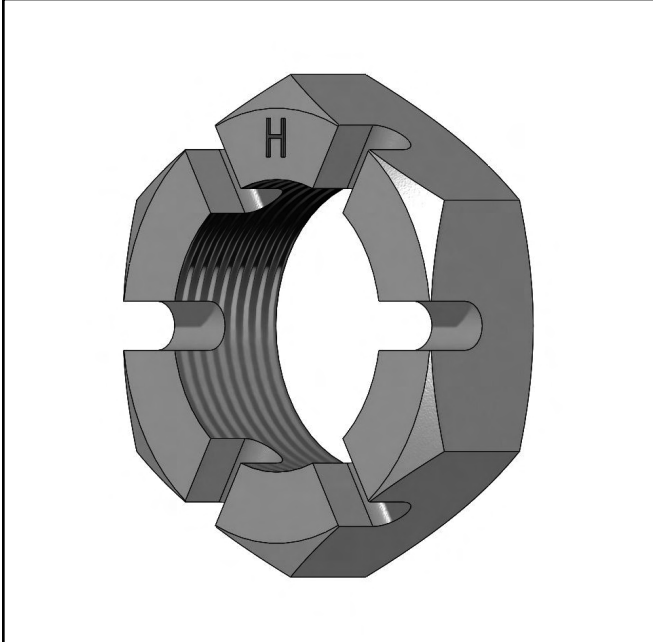
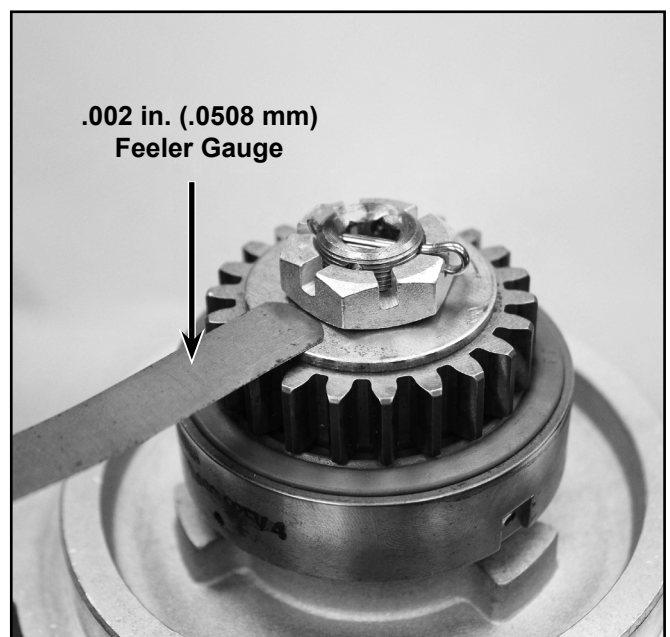

Figure 3 - Laser Etched "H"
Figure 6 - Gap Measurement
- (1) Remove the alternator from the engine in accordance with the latest revision of the aircraft and/or engine manufacturer's maintenance manual.
- (2) Inspect castellated hex-nut (1). If one of the following indicators is present, the alternator is in compliance with this ASB. Refer to Figures 3 thru 5.
- (a) Hex-nut (1) is laser etched with the letter "H";
- (b) Hex-nut (1) is stamped with a center-punch;
- (c) Hex-nut (1) is roll-stamped with the letters "AD".
- (3) If any indicator stated above **is not** present, proceed to 3.B.(4). If one of the indicators stated above **is** present, continue to 3.B.(8).
- (4) Using a .002 in. (.0508 mm) feeler-gauge, measure the gap between the nut thrust face and the thrust washer at each of the six hex-nut flats. Refer to Figure 6.